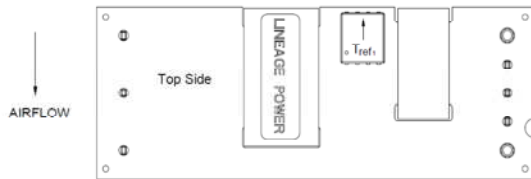

Figure 13a.  $T_{ref1}$  Temperature Measurement Location for Open Frame Module.
The thermal reference points,  $T_{ref1}$ ,  $T_{ref2}$  and  $T_{ref3}$  used in the specifications for open frame modules are shown in Figures 13a and 13b. For reliable operation these temperatures should not exceed 125°C, 110°C and 105°C respectively.